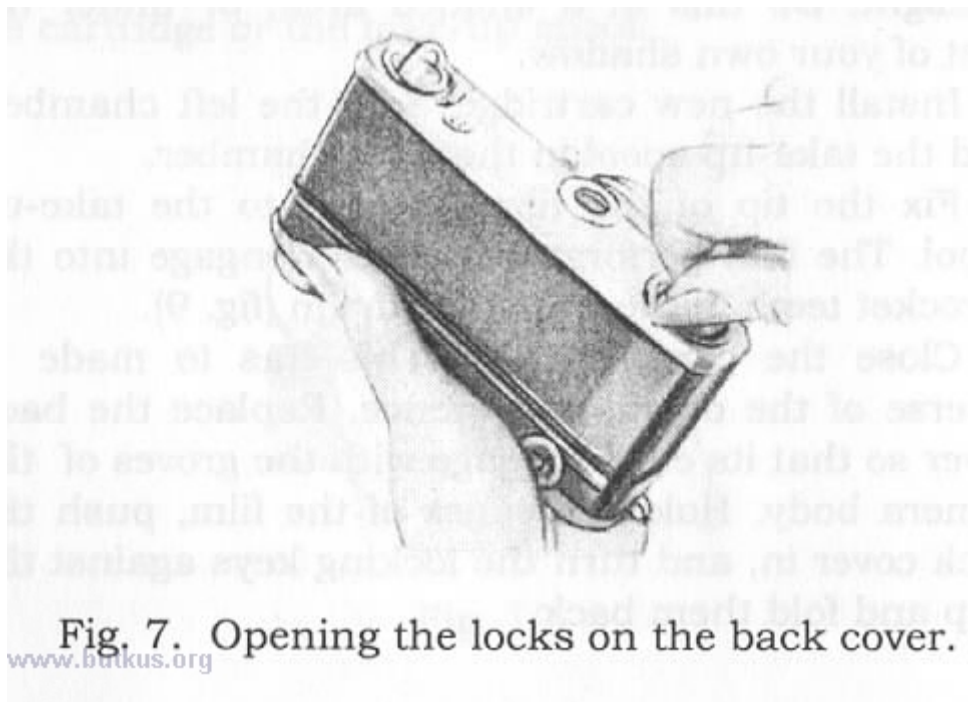

Fig. 7. Opening the locks on the back cover.
To open the camera and remove the cartridge, turn the camera bottom up and pull out the lock keys (24) and twist them (fig. 5) by half a turn against the stop as shown in fig. 7.